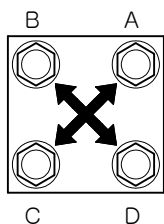

Fig. 8-3
- 3) Disassemble nuts of through bolts from the main body (Refer to disassembling order in Fig. 8-3).